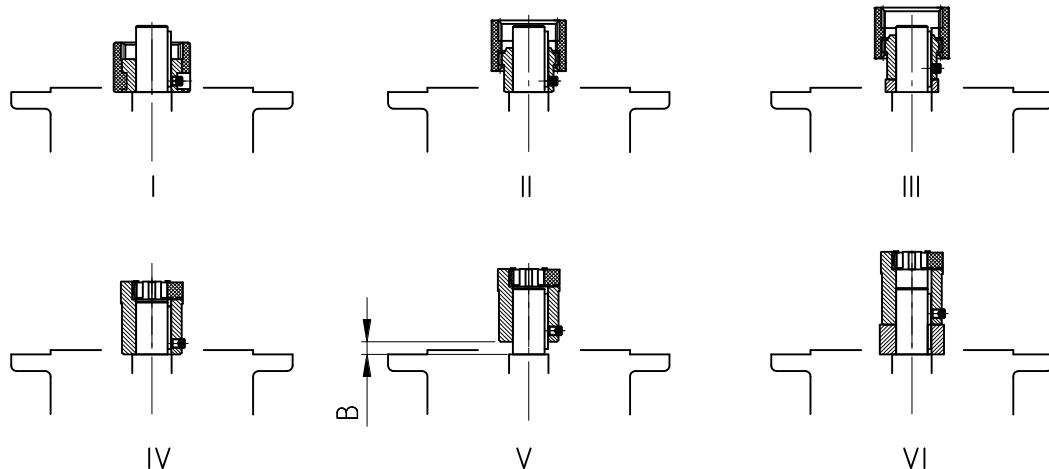

Figure 3-13: Fitting the coupling onto the motor shaft - various types of coupling
3. Tighten the coupling sleeve on the motor shaft in accordance with the motor manufacturer's instructions until it touches the collar. With motor sizes 160, 180 and 225, any spacer bushes must be positioned between the coupling sleeve and the collar. With standard helical gear units, dimension B between the coupling sleeve and the collar must be observed (see Figure 3-13). Certain **NEMA adapters** require the adjustment of the coupling in accordance with the specifications indicated on the adhesive plate.
6. Mount the motor to the IEC /NEMA adapter, do not forget to fit the gear rim or the sleeve. (See Figure 3-13)